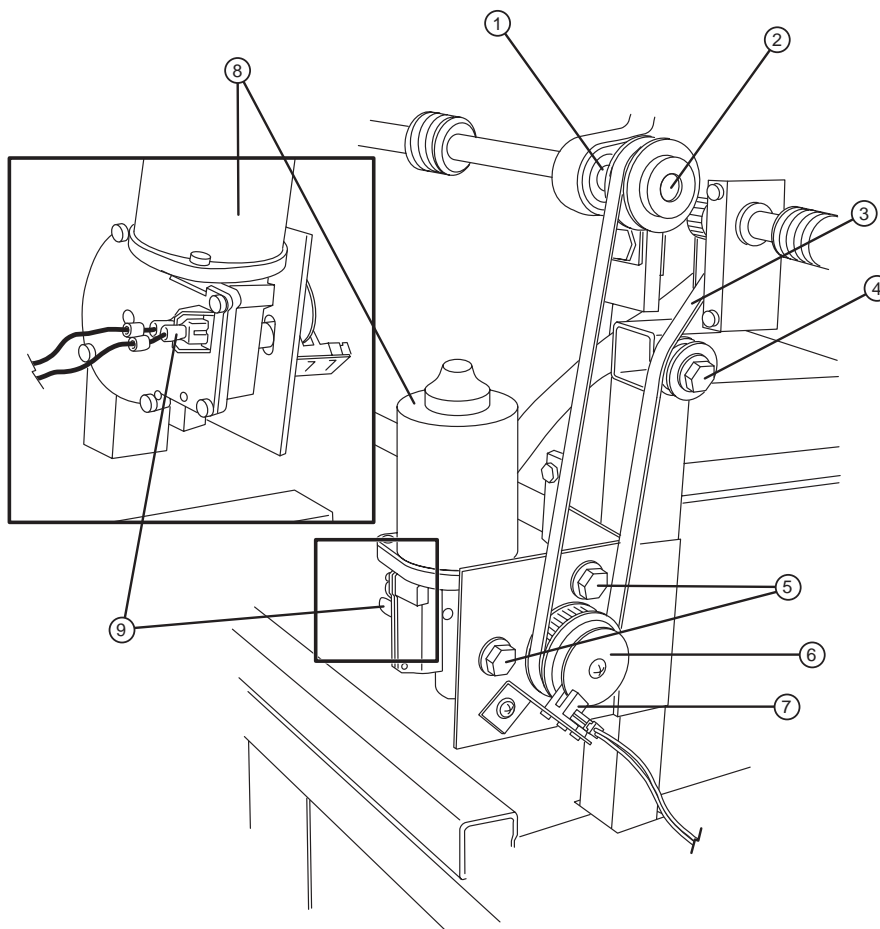

Figure 3-1 The drive motor.
3. Using a phillips screwdriver, remove the bracket with the encoder sensor/sensor connector attached. Refer to Figure 3-1.
- ①— Drive wheel set screw. ②—Drive wheel. ③—Drive belt. ④—Idler.
⑤—Three mounting bolts. ⑥—Encoder disk. ⑦—Encoder sensor/sensor connector.
⑧—Drive motor. ⑨—Drive motor power connectors (M1, M2).
4. Disconnect the two (2) power connectors (M1 and M2). Refer to Figure 3-1.
5. Using a phillips screwdriver, remove the encoder disk at the end of the shaft. Refer to Figure 3-1.
7. Loosen the three (3) mounting bolts (near the encoder disk). Refer to Figure 3-1.
8. Lift the belt from the idler and remove the idler's securing bolt. Refer to Figure 3-1.
9. Remove the three (3) mounting bolts and pull the motor out.